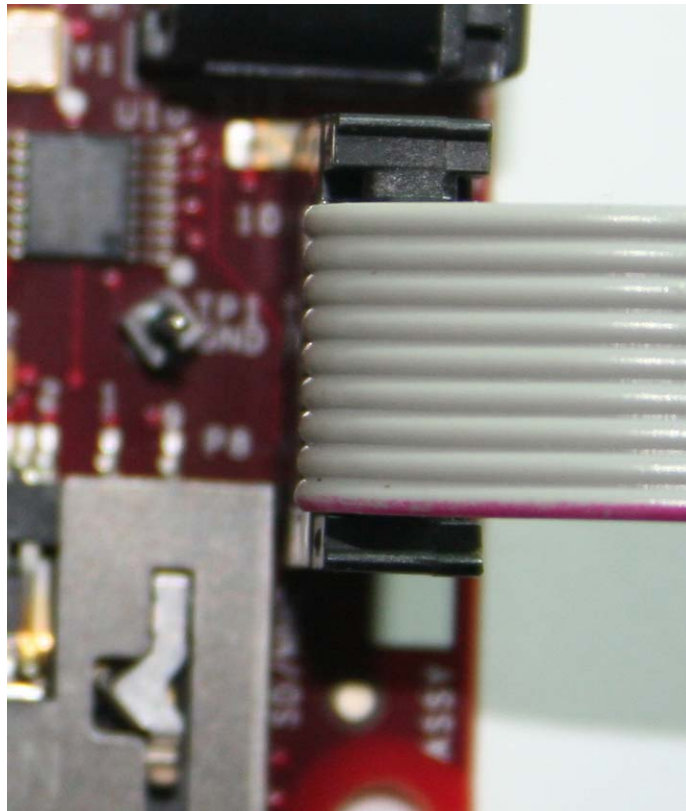

Figure 83. BeagleBoard Serial Cable Orientation
2. Make sure that the cable is plugged in correctly. The red stripe should be at the bottom next to pin1 of P9. Some cables may have the flat cable extending away from the BeagleBoard and others may be extending toward the middle of the BeagleBoard. **Figure 83** shows the proper orientation of the IDC serial cable.